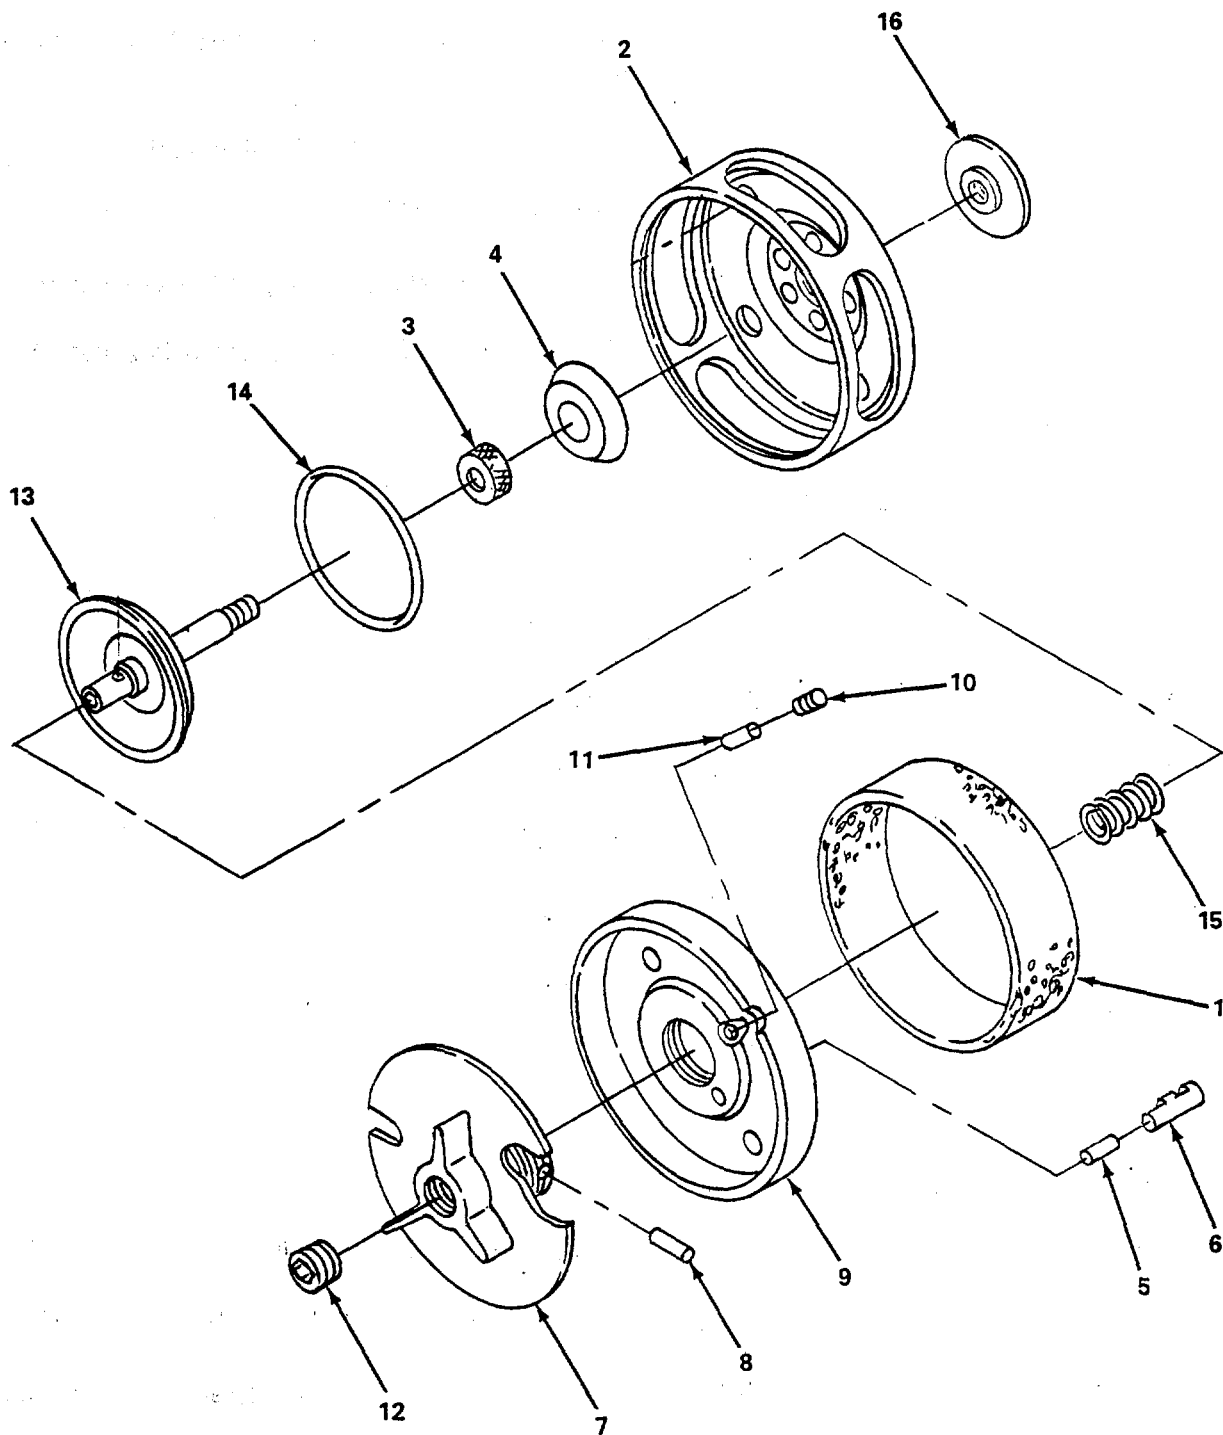

Figure 4-17. Adjustable Exhaust Valve, Repair.
- (7) Install new preformed packing (14) and valve body (13) and secure with two screws (11) and lockwashers (12). Torque screws to 15-20 in.-lb (1.7-2.3 Nm).
- (8) Install new preformed packing (10) and poppet valve (9) and secure with chin button (8).
- (9) Install spring (7) and cover (6), with handle (1) installed.
- (10) Line up cutout in handle (1) with mounting hardware hole and install screw (4) and lockwasher (5).
- (11) Line up cutout in handle (1) with mounting hardware hole and install screw (2) and lockwasher (3).
- (12) Torque screws to 15-20 in.-lb (1.7-2.3 Nm).
b. Repair. (figure 4-17)
- (1) Remove adjustable exhaust valve (para a.).
- (2) Remove diffuser (1) from valve body (2).
- (3) Remove diaphragm retainer (3) and diaphragm (4).
- (4) Remove straight pin (5) and stop pin (6) from handle (7).
- (5) Remove pin (8) and remove valve handle (7) from valve cover (9).
- (6) Remove setscrew (10) and friction drag insert (11).
- (7) Remove spring tension adjusting screw (12) from handle (7).
- (8) Inspect diffuser (1) and replace if torn.
- (9) Inspect diaphragm (4) and replace if worn, cracked, or otherwise damaged.
- (10) Inspect stop pin (6) and replace if worn or bent.